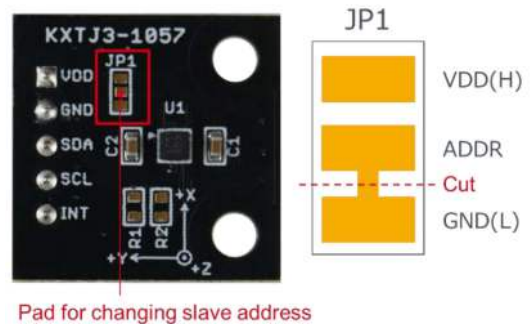

Figure 9. Pattern Cut
1. Cut the pattern on the pad for changing slave address. (Figure 9)